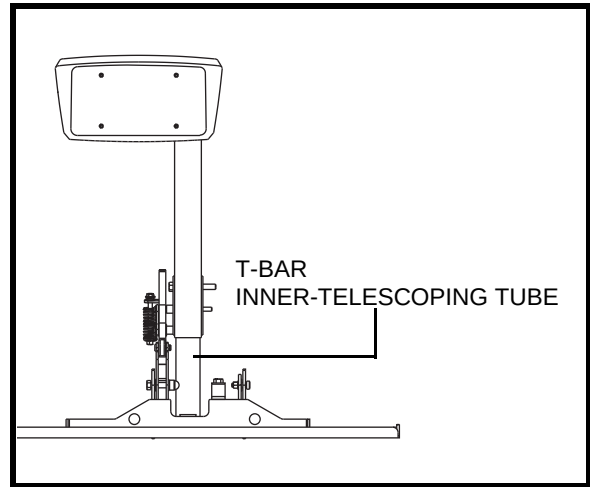

Figure 22. Lift Frame Maintenance
- Clean and lubricate the T-bar inner telescoping tube. Use only all-weather lithium grease. **See figure 22**